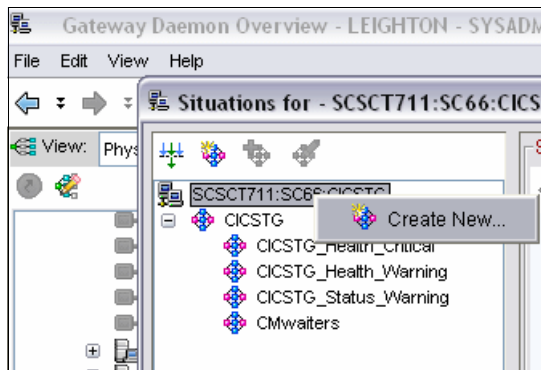

Figure 8-22 Select CREATE NEW
3. The situation editor pop-up menu appeared. We right-clicked and then selected Create New, as shown in Figure 8-22.